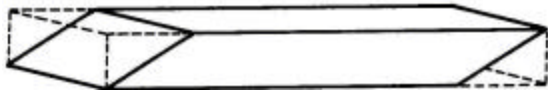
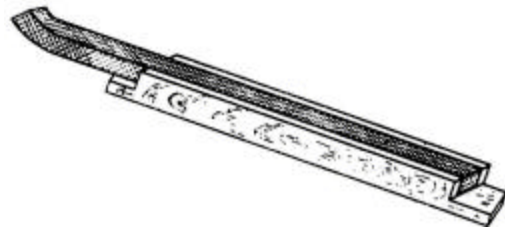

Fig.23 – Oblique cut of the gasket
Fig.24 – Device to cut packing rings
On fig.23 “V” corresponds to the peripheral speed (in m/s) calculated by formula:
- Cut new packing rings with oblique end (see fig. 23). To facilitate cut, a disposal of easy construction can be used (see fig. 24).